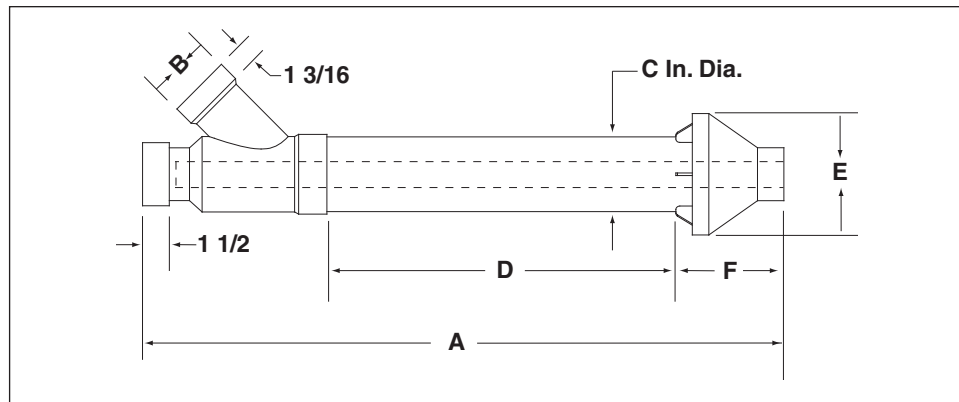
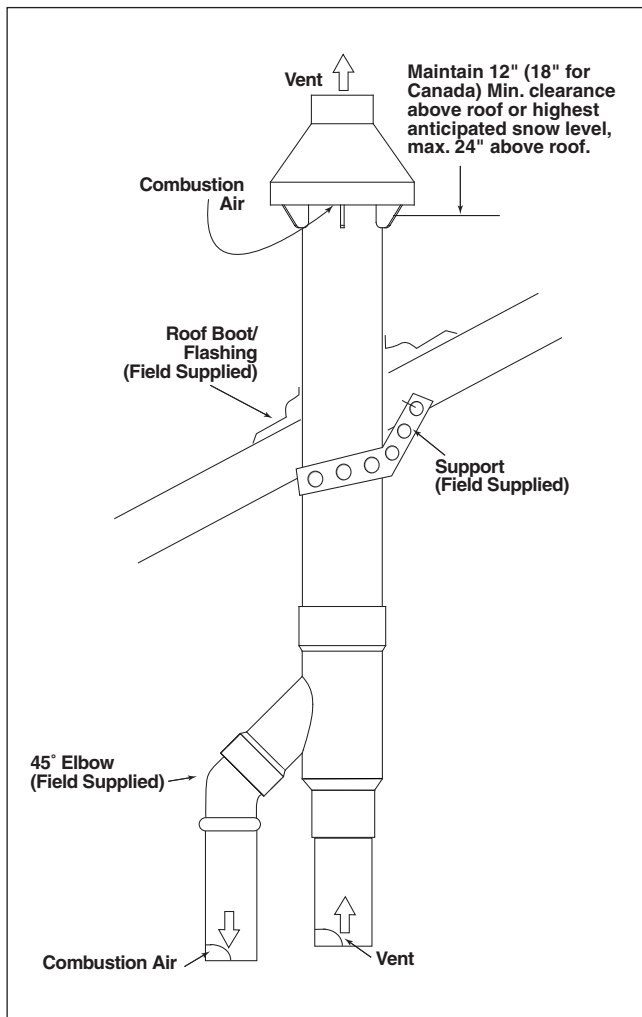

Figure 2. Dimensions
Figure 3. Roof Installation
4. Install cemented Y concentric fitting and pipe assembly through structure's hole and field supplied roof boot/flashing (See Figure 3).
5. Secure assembly to roof structure as shown in Figure 3 using field supplied metal strapping or equivalent support material. NOTE: Ensure termination height is above the roof surface or anticipated snow level (12 inches in U.S.A. or 18 inches in Canada). If the assembly is too short to meet the height requirement, the 2 pipes supplied in the kit may be replaced by using the same diameter, field supplied SDR-26 PVC (D2241) pipe. Do not expand dimension "D" more than 60 inches (See Figure 2).
NOTE: If assembly needs to be extended, the 2 pipes supplied in the kit may be replaced by using the same diameter, field supplied SDR-26 PVC (D2241) pipe. Do not expand dimension "D" more than 60 inches (See Figure 2).